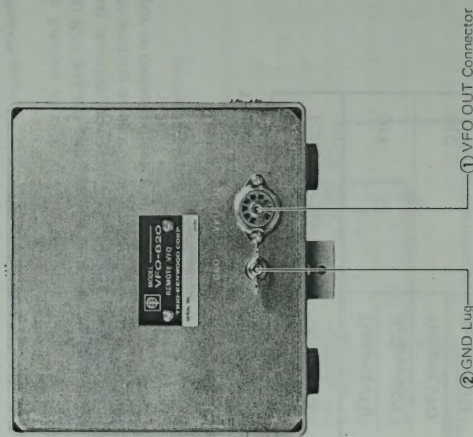

Fig. 3 Rear Panel View
2.2 REAR PANEL CONTROLS (See Figure 3)
VFO OUT CONNECTOR (1 on Figure 3)
GND LUG (2 on Figure 3)